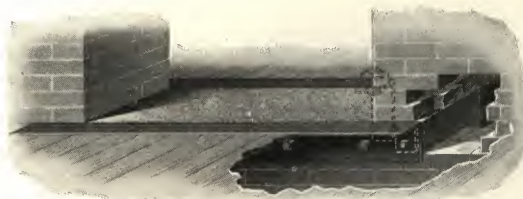
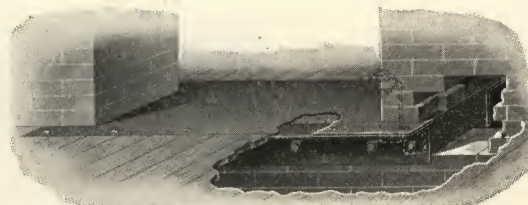
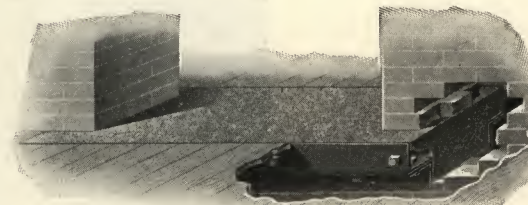

FIG. 1 ANGLES FOR FLUSH SILL
FIG. 2 ANGLES AND STEEL PLATE SILL
FIG. 4 Z BARS FOR SILLS
Furnished with anchors as illustrated when frame is used on one side of wall only (see also Fig. A-1832) or with thru bolts when frames are used on both sides of wall, (see Fig. A-1833). The bottom end of frame extends into the concrete part of the sill 2 inches, except when used with sill shown in figure 2, page 269.
Furnished with anchors as illustrated when frame is used on one side of wall only (see also Fig. A-1835) or with double ties when frames are used on both sides of wall (see Fig. A-1836) The bottom end of frame extends into the concrete part of the sill 2 inches, except when used with sills shown in figure 2 on page 269.
Channel frames are especially adapted for use with tile or terra cotta walls and may be built to extend from floor to ceiling when walls are not substantial enough to hold the frames securely in place. The width of the channel is generally 1 inch greater than the thickness of the tile or terra cotta. The doors can be attached to one or both sides of the frame. The bottom end of frame extends into the concrete part of the sill 2 inches, except when used with sill shown in figure 2 on next page.
Sills as shown in Figs. 1 and 3 are a combination of angle irons and concrete. This makes a very substantial threshold, and when the concrete is worn it can be replaced at a very small expense.
Sills as shown in Fig. 2 are the same as Fig. 1 with the addition of a steel plate on top of the concrete. Plate is
Sill as shown in Fig. 4 is a combination of Z bars and concrete. The same lasting qualities as mentioned for sills as shown in Figs. 1 and 3.
**Third**—On Figure 2 sills state if plate is desired the full length of
**Fourth**—State if standard guide rollers for sliding doors are to be used with sills shown in Figs. 1 and 2.